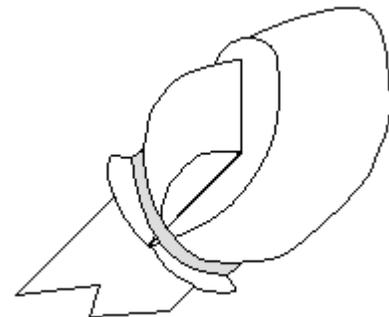

Figure 4
4. Tape each of the 2" x 12" pieces of 1" open cell foam over the end of the sword, using strapping tape. You may trim the ends so they are even if you wish, but be sure the foam extends down the rattan at least as far as the closed cell foam, and preferably a little farther. Your sword should now look like Figure 4.